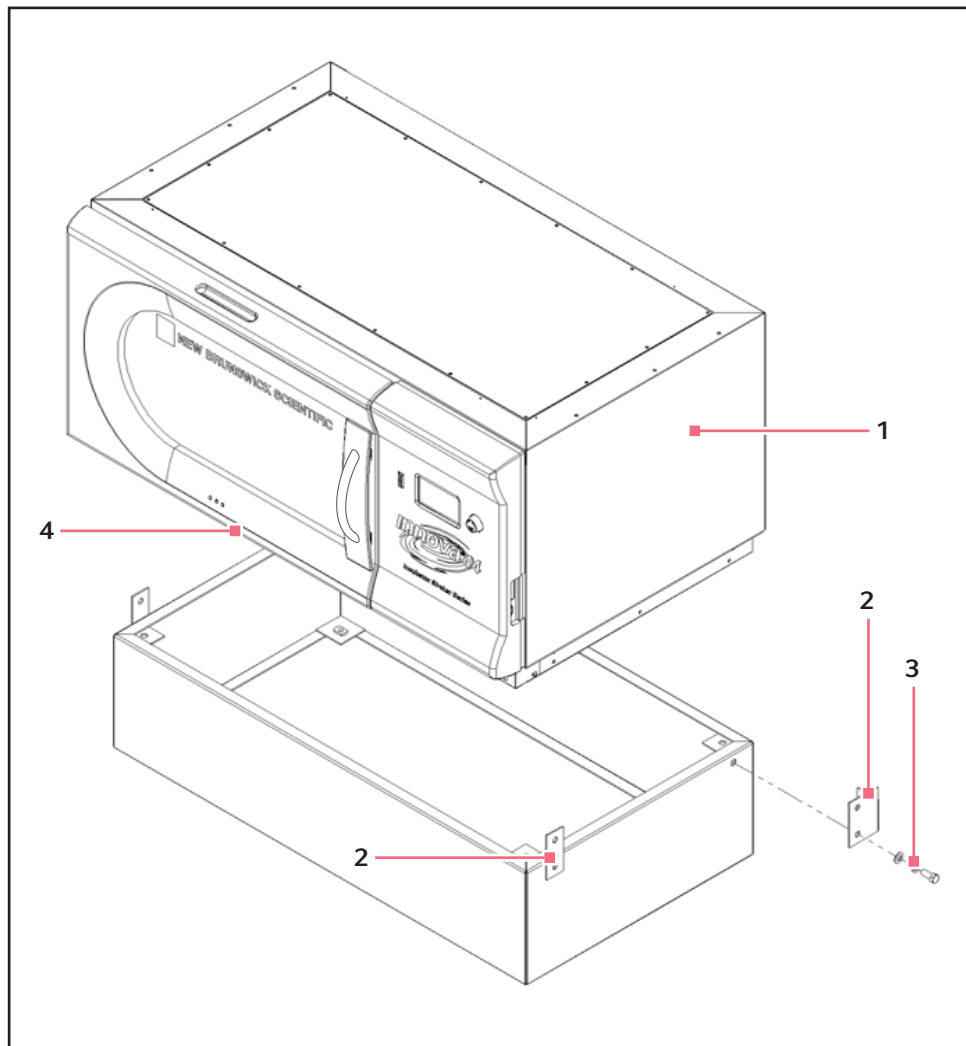

Fig. 6-3: Mount Shaker on Base
4. Remove the set screws from the bottom sides of the shaker that correspond to the mounting holes for the rear corner braces (see Fig. 6-3 on p. 25).